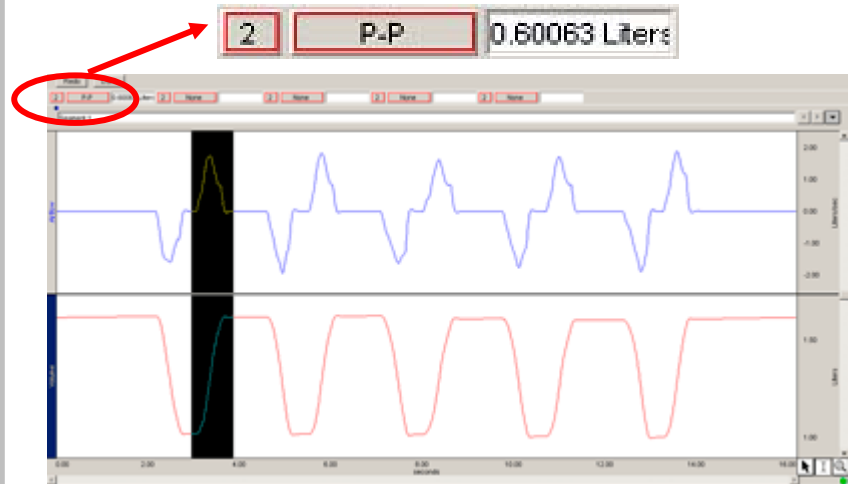

Figure 12.7 Calibration Validation shows P-P result 0.6 liters
- d) Measure P-P on CH2 Volume to confirm the result is 0.6 liters (Fig. 12.7)